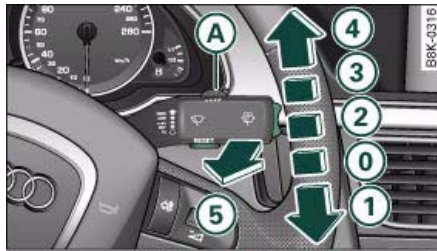

Fig. 63 Windscreen wiper lever
To reduce the sensitivity level of the rain sensor move control  ⇒ *page 62*, fig. 63 to the left. To increase the sensitivity level of the rain sensor move the control to the right.
- Move the automatic wash and wipe lever to position  ⇒ *page 62*, fig. 63.
- If the wiper blades are not frozen to the windscreen, move the windscreen wiper lever to the "off" position ① ⇒ page 62, fig. 63.